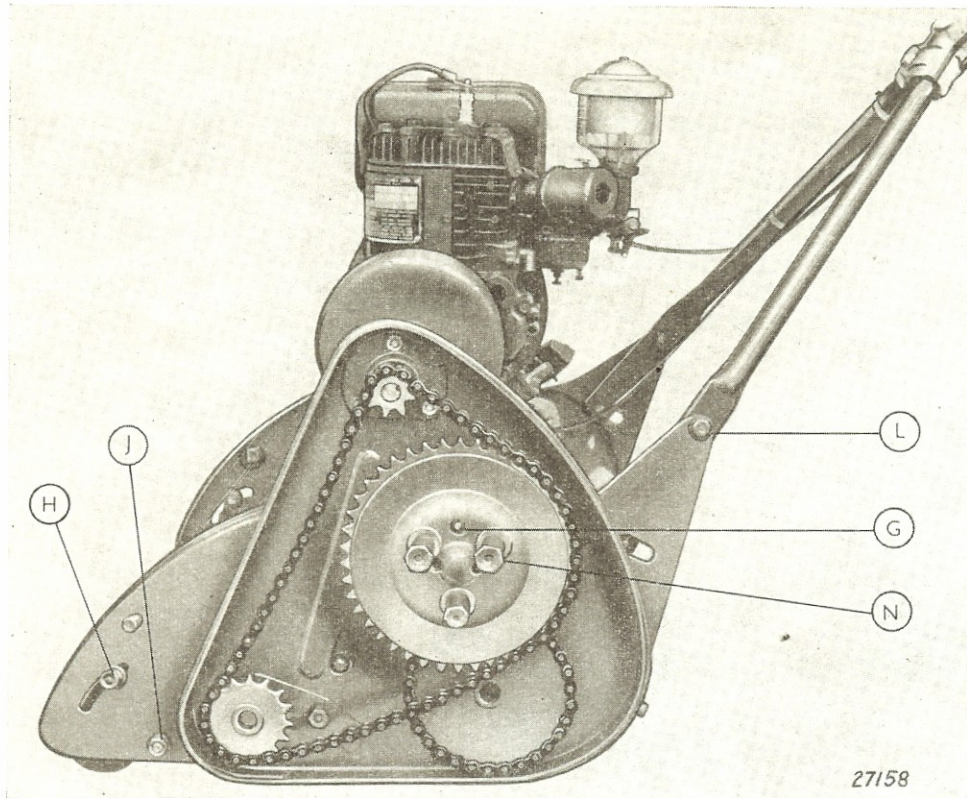

Fig. 4. View of transmission side of machine, with chaincase removed.
5. Land roll clutch through nipple G in outer plate. Chain case must be removed to expose this oiling point (fig. 4, page 6).
Slacken the nuts H and J (fig. 4, page 6) and slide brackets up or down as required, taking care to see that the front roll is kept square to the bottom block.
The height of the handles can be adjusted to suit the user. Slacken the bolts L (fig. 4 page 6) at the bottom of the handles, alter the height as required, and retighten the bolts.
Both chains are adjusted by positioning the land roll plate clutch assembly. (Fig. 4). To adjust, disengage the clutch by lifting the clutch lever, rotate the outer plate until the two holes line up with two holes in the nut beneath, insert the special clutch pin spanner provided in the tool kit and turn anti-clockwise to slacken nut. Slide the clutch body to tighten the chains and then re-tighten nut. When adjusted correctly the chains should be slightly slack in all directions. (see fig. 4, page 6)
First undo screw in chain case and remove it and then take off land roll clutch assembly complete with chains. To remove this assembly proceed as follows. Undo the three hexagonal nuts N (fig. 4, page 6), and take off springs and distance tubes: the outer plate, chain wheel and chains can now be removed. Using the special pin spanner, slacken and remove the securing nut, and remove intermediate chain wheel and clutch stiffener plate.
Loosen off height adjusting nuts H (fig. 4, page 6) and drop the wood roll spindle until it is clear of the chassis. Remove nuts on end of wood roll spindle and draw out spindle. If it is desired to remove the adjusting brackets undo completely the height adjusting nuts and withdraw the brackets from their pivot bolts. Assemble in the reverse order.